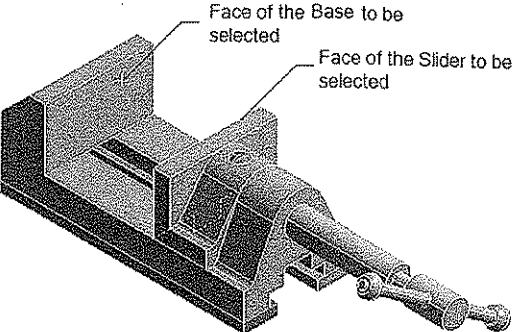

Figure 8-37 Selecting faces to apply sizing
5. Next, press and hold the CTRL key and then select the faces of the Base and the Slider components in the Graphics screen, refer to Figure 8-37.